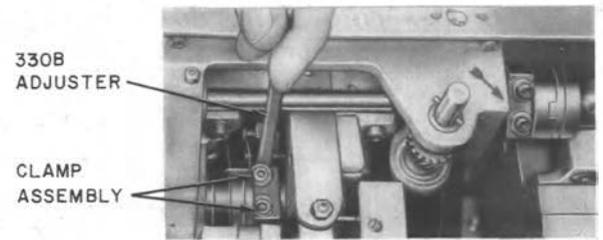

Fig. 59—Method of Holding Clamp Assemblies of Type Initially Provided
3.70 Clamp Assemblies: To replace a clamp assembly (Fig. 59) of the type provided on initial production models of the perforator (2.07), proceed as follows.
- (1) Position the clamp assembly screw for removal by turning the manual control handle or pulling up or down on the motor belt until the screw is accessible.
- (2) Hold the rear clamp in place either using the finger or the 330B adjuster as shown in Fig. 59 before attempting to remove or replace the clamp assembly screw.
- (3) Remove the screw using a hex socket screw wrench.
- (4) Remove the front clamp using the P long-nose pliers.
- (5) Rotate the shaft counterclockwise to bring the rear clamp to the front position.
- (6) Remove the clamp using the P long-nose pliers.
- (7) Apply a film of KS-16832 lubricant to all surfaces of the replacement clamp assembly and mounting screw threads using the KS-14184 brush.
- (8) Substitute the replacement clamp and mount the threaded half of the clamp assembly first. Take care that the clamp is positioned with the beveled portion resting against the shaft.
- (9) Rotate the shaft while holding the clamp in place and mount the front half of the clamp.
- (10) Insert and securely tighten the mounting screw.